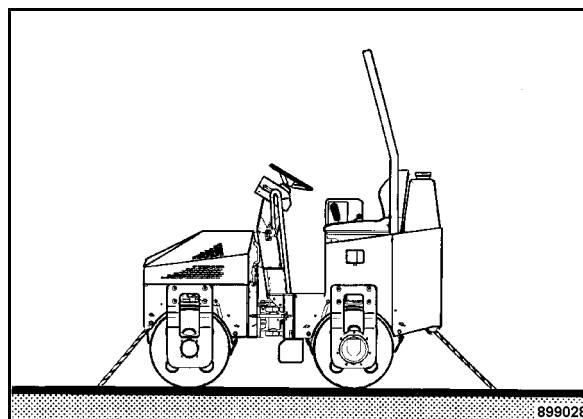

Fig. 55
- Tie the machine to the transport vehicle, attach the tying gear (Fig. 55) to the front and rear frame.